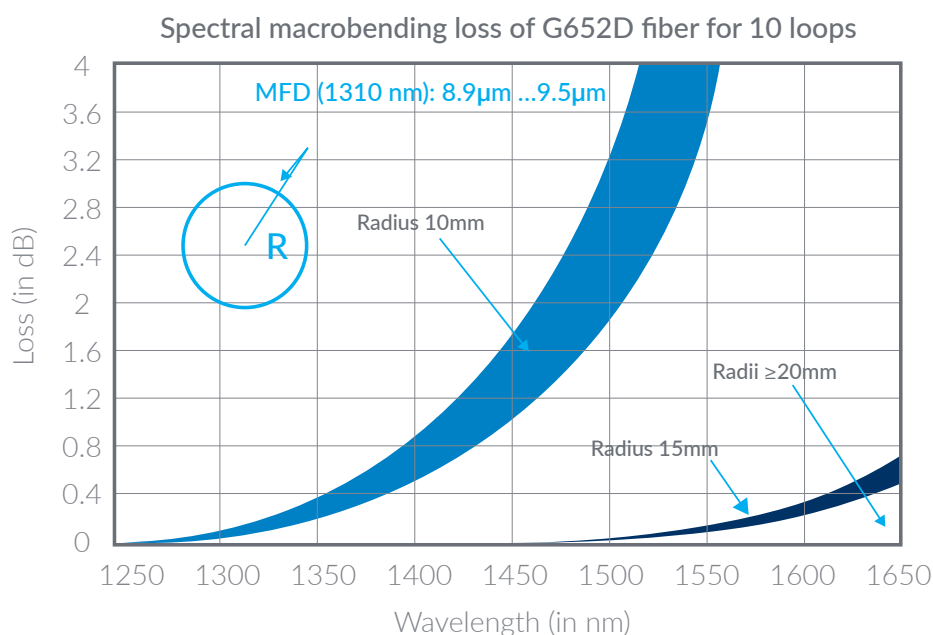

Figure 4: Wavelength dependence of macrobending loss
4. Organization & identification of fiber connections (what's connected to what): Proper fiber overlength storage and maintenance of controlled bend diameter contribute to a mechanically and optically reliable network. Even emergent fiber types such as ITU-T G657A1- A2 – B require careful storage and handling to prevent micro- and macro-bending. Attenuation caused by macrobending is wavelength dependent (see Figure 4).